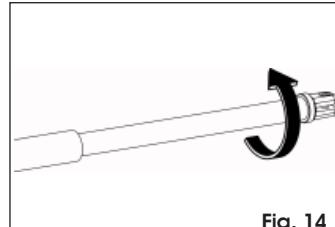

Fig. 14
- Turn the operator's rod clockwise by a half/full turn, Fig.14, to retract the rod.